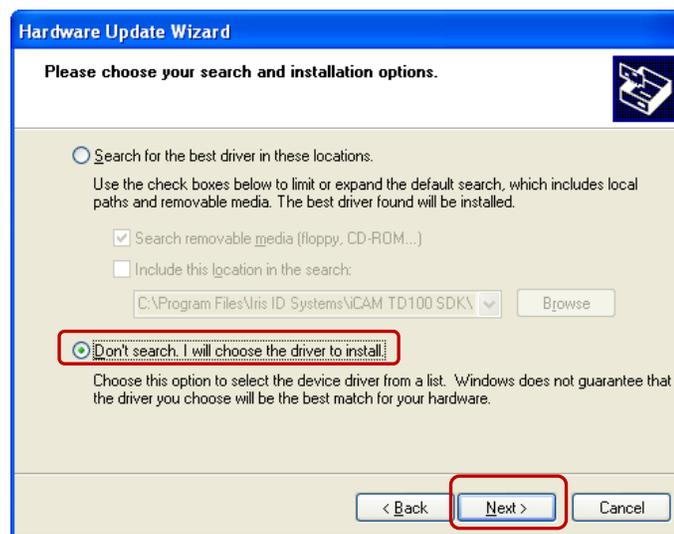

Fig. 19
14. Select **“Don’t search. I will choose the driver to install”** radio button and click **Next** to continue As (shown in Figure 19).